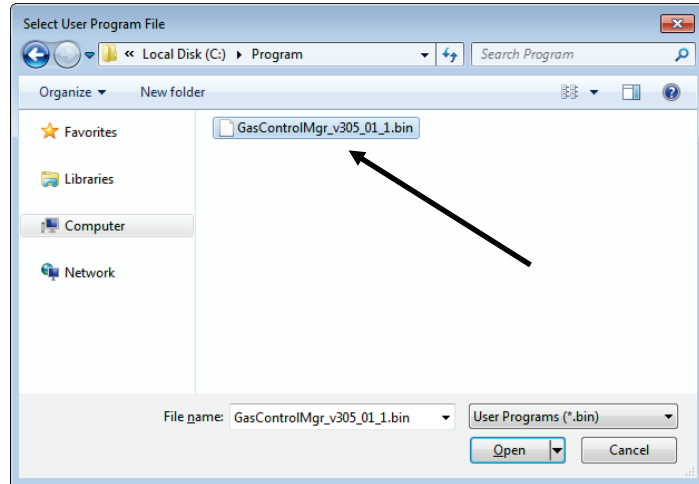

Figure 4. Select User Program File
4. Click **Browse** in the Download User Program File frame. The Select User Program File screen displays (see *Figure 4*).
5. Select the path and user program file to download from the CD-ROM. (Program files are typically located in the Program Files folder on the CD-ROM). As *Figure 4* shows, the screen lists all valid user program files with the .BIN extension: